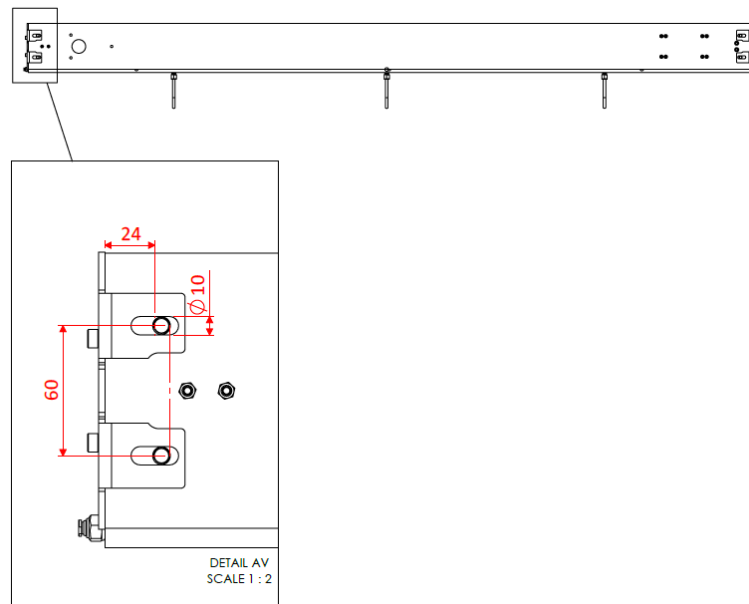

Figure 13. Wiper Casing Mounting Holes
1. The mounting kit includes a wedge (8) and M8 fiber nut (10).
2. The M8x20 bolt (9) is inserted into the wedge (8) and welded.
3. The wedge (8) piece is welded to the ship's hull (7).
4. The wiper casing (1) mounting holes (Figure 13) are placed over the bolts (9) on the wedge (8) and tightened with the fiber nut (10).
Wiper Blade Replacement: The wiper arm and blade can be replaced using the details of the Wiper Blade Assembly and Wiper Arm Assembly shown in Figure 13.